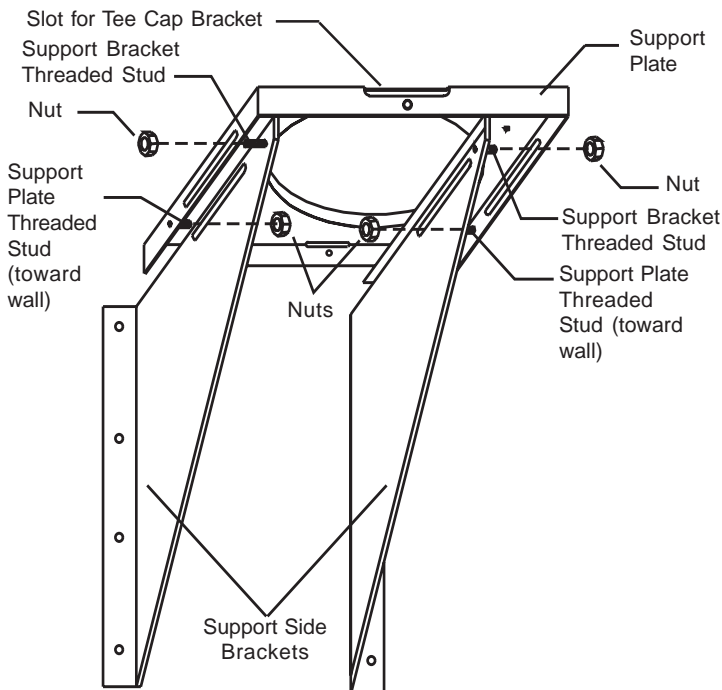

FIGURE 13
The Wall Support will allow for an adjustment of 2" to 6" from a vertical wall. Threaded studs are factory installed on both side brackets and the support plate for fast and easy assembly (see Figure 13).
5. Assemble the 2 side Brackets (point of triangle facing down) to the Support Plate (flange up and threaded stud towards the wall) by inserting the threaded studs into the oblong slots (see Figures 13 & 14). Install the supplied nuts on the threaded studs until snug, do not tighten at this time as adjustments may be required. Set aside and prepare the support bracing to secure the side brackets as per the Framing Dimensions Table 3, Section B and Figure 11 (B).